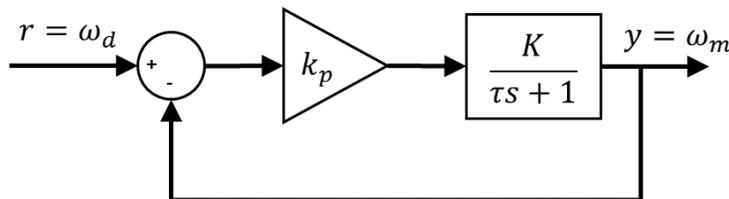

Figure 1.3: Proportional control of servo speed
As shown by the block diagram in Figure 1.3, here $r(t) = \omega_d(t)$ is the reference angular velocity, $y(t) = \omega_m(t)$ is the measured angular velocity, and $u(t) = v_m(t)$ is the control input (applied motor voltage).
1. Find the closed-loop transfer function $E(s)/R(s)$ in Figure 1.3 that represents the dynamics between a desired angular rate, $R(s) = \Omega_d(s)$, and the error, $E(s) = R(s) - Y(s) = \Omega_d(s) - \Omega_m(s)$.